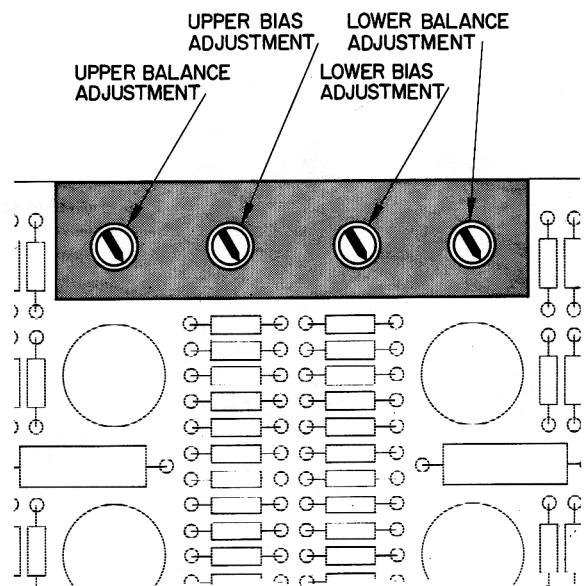

Figure 7-8
Step 2: Adjust the servo balance control for the upper servo (Figure 7-8) for a zero vdc differential reading of the voltmeter.